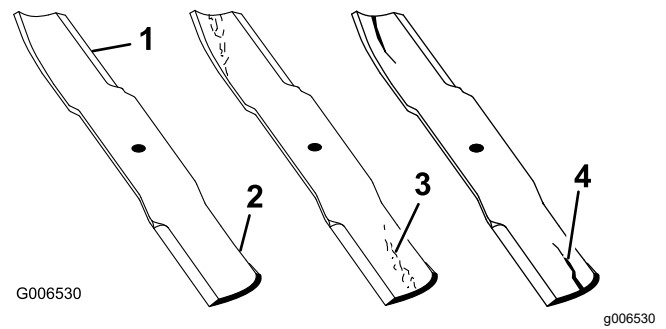

Figure 73
1. Inspect the cutting edges (Figure 73).
4. If you notice any cracks, wear, or a slot forming in this area, immediately install a new blade (Figure 73).